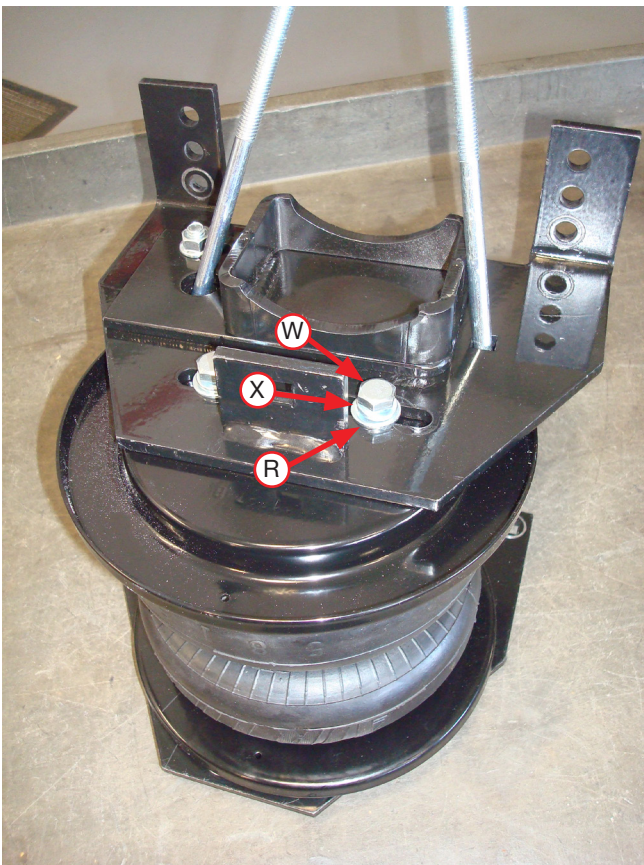

Fig. 13
6. Set the lower bracket assemblies onto the air springs with a roll plate installed and attach with two 3/8"-24 x 7/8" hex bolts (W), 3/8" lock washers (X) and 3/8" flat washers (R) (Fig. 13). Push the lower bracket as far forward as possible. Refer to Fig. 14. Torque the hardware to no more than 20 lb.-ft. (27Nm).